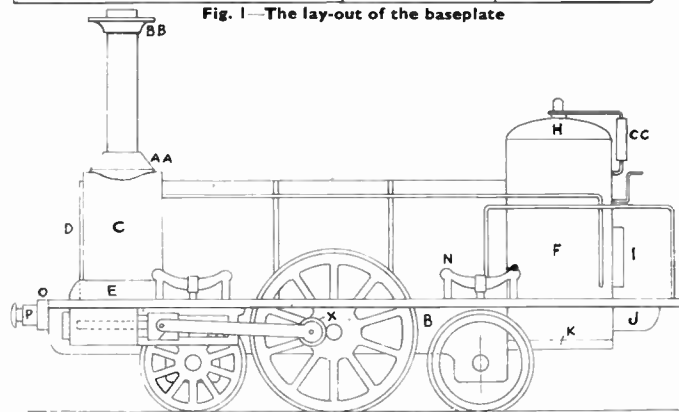
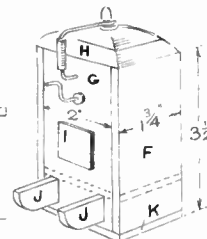

Fig. 4—Side elevation showing position of parts
Fig. 3—Firebox
Now turn to the firebox (Fig. 3) which is made up of pieces (F), (G) and (H), with piece (K) for the base. Wood
$\frac{1}{8}$  in. thick will be used for all these pieces. The top (H) will consist of two pieces  $2\frac{3}{8}$  ins. by  $1\frac{1}{2}$  ins. glued together and afterwards shaped up with rasp, file and glasspaper to the outline shown in the side view Fig. 4, and the detail Fig. 3. Take care in assembling and gluing up the pieces to see that they are butted together properly and in the order shown, such as pieces (G) go in between the sides (F) of the firebox.
each cylinder, as shown in Fig. 4 and on pattern sheet. The piston which works freely in the hole of the cylinder is shown as (V) on the sheet, and the square portion of it must slide easily in the slide piece (T) which is glued centrally with the cylinder to the footplate. Two of each piece will, of course, be made, one each side of the loco.
$\frac{1}{8}$  in. or  $\frac{1}{16}$  in. wood. The two brackets (J) are cut to the outline given on the pattern sheet and glued as shown underneath the footplate, see Figs. 3 and 4.
To cover this framework and so form the circular boiler, we have a square of stoutish card  $5\frac{3}{8}$  ins. long by about 7 ins. wide. Apply glue all round the edges of the three discs and then bend the card on to them, holding the latter tightly in place by slipping over two or three elastic bands until the glue has hardened. The completed boiler should now fit accurately and be glued between the two end uprights of the footplate and go into the opening of the latter for a distance of  $\frac{3}{8}$  in. Four springs, as (N) on the pattern sheet, should next be cut from  $\frac{3}{16}$  in. wood and glued to the footplate in the positions given on the plan Fig. 1, and side view Fig. 4.
A glance at Fig. 4 gives the general arrangement of the fittings.